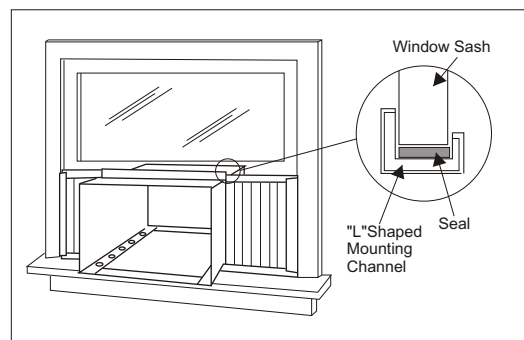

Fig. 11
B. Ensure the "L" shaped mounting channel is positioned in front of the sash. The bottom channel of the cabinet should be positioned in the track provided on the bracket assembly. Pull the window down until it rests just behind the front of the "L" shaped mounting channel. See (Fig. 11).